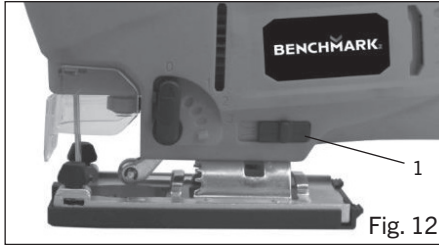

Fig. 12
During normal use without the vacuum adaptor installed, the vacuum port switch (1) must be slid toward the front of the tool (Fig. 12). This will allow the internal motor fan to continuously blow the sawdust away from the cutting mark. When the vacuum adaptor is installed, the vacuum port switch must be slid toward the rear of the tool. This positions the internal baffle to divert the sawdust through the vacuum port so it can be evacuated by the workshop vacuum.